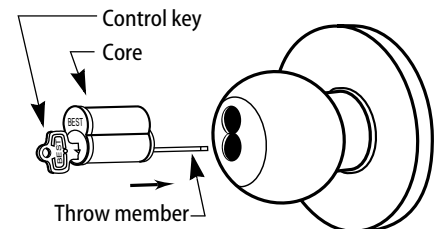

Figure 11—Installing the core
- 1 Remove the core and throw member (if already installed). See Figure 11.
- 2 Insert the control key into the core and turn the key 15 degrees clockwise.
- 3 Insert the core and throw member into the knob with the control key as shown in Figure 11.